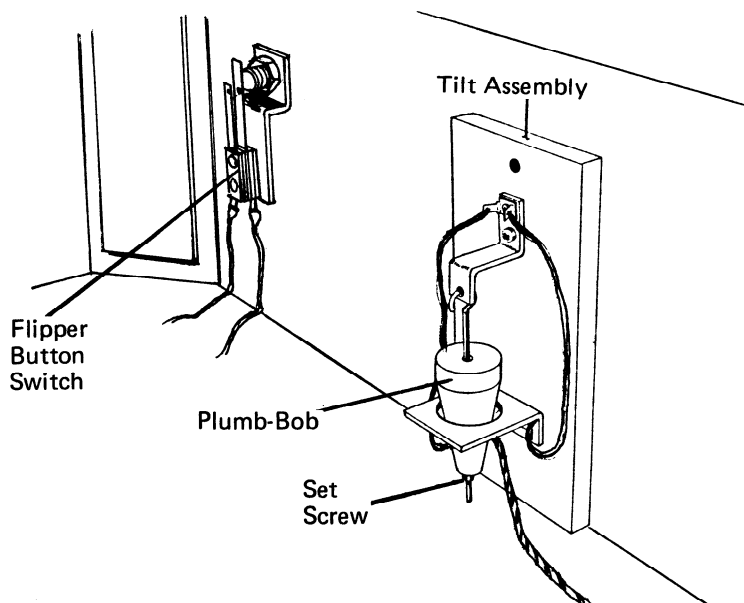

FIGURE 17
Refer to Figure 17.
35. Adjust flipper button switch: (See Figure 17, Page 15). Gently bend long blade of switch until it is straight. Gently bend short blade so that the contacts are approximately .060 inch apart. Depress the flipper button to make sure that the button moves the long blade sufficient to contact the short blade.